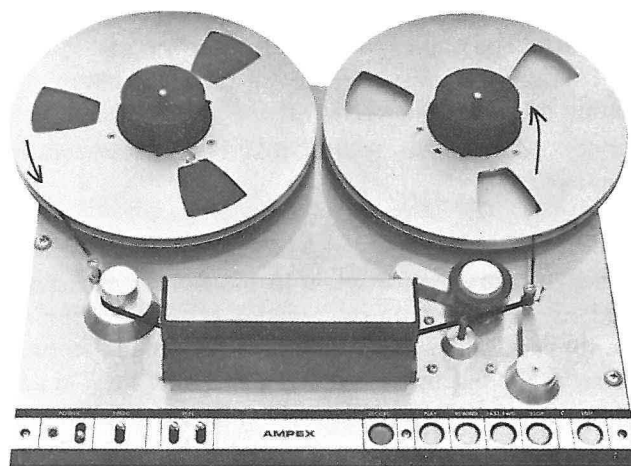

Fig. 3-2. Tape Threading Path
3.2.4 Threading Tape (see Figure 3-2)